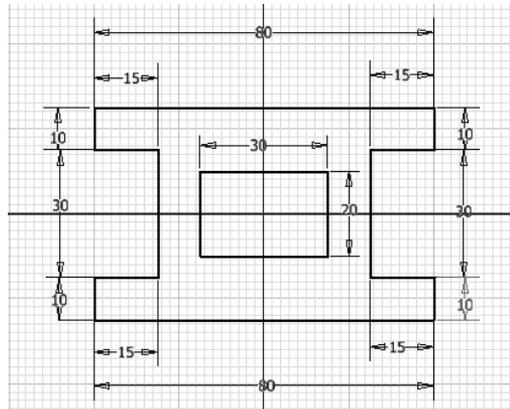

Figure 2-53 Completed sketch for Tutorial 2
- Draw the inner closed loop by using the Dynamic Input method, refer to Figure 2-53.
18. Next, right-click on the graphics window; a Marking Menu is displayed. Choose **Done [ESC]** from the Marking Menu; the sketch is created, as shown in Figure 2-53.